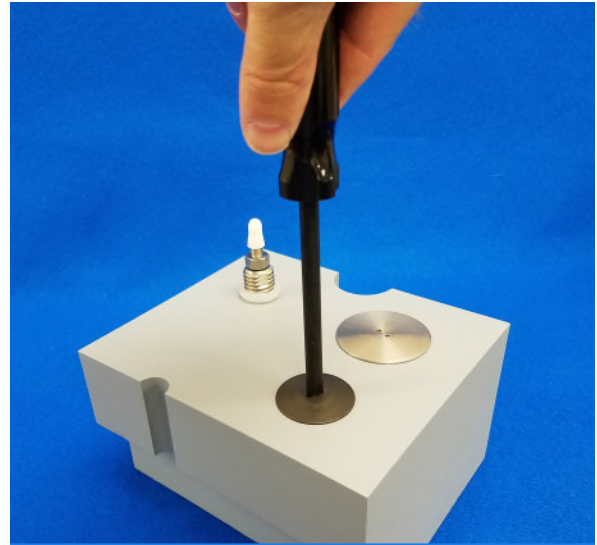

Figure 7. Spanner Tool and Secure Cover
- 7) Remove the barb fitting and screw the Mini Pin™ Secure Cover onto the Mini Pin™ (Figure 7). Allow 2 hours or more (consult applicable guidance for your situation) for the sub-slab soil-gas conditions to re-equilibrate prior to sampling.